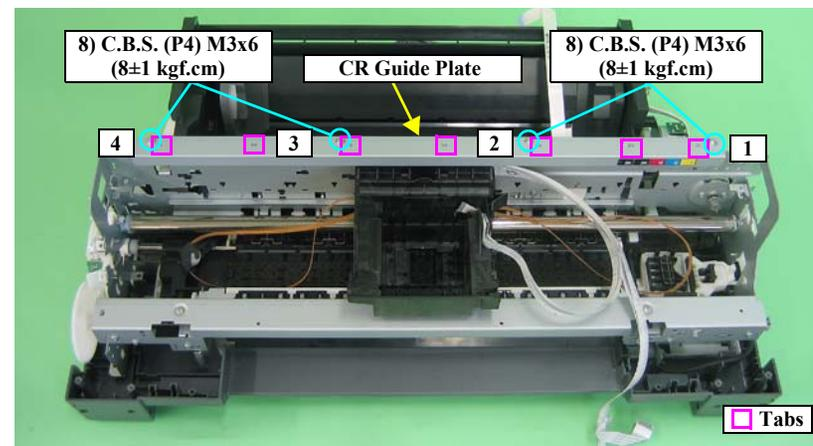

Figure 3-66. Removing the CR Guide Plate
- Align the positioning holes on the CR Guide Plate with the seven tabs on the Main Frame. See Figure 3-66 \(p.65\)
- Tighten the screws in the order shown in Figure 3-66.